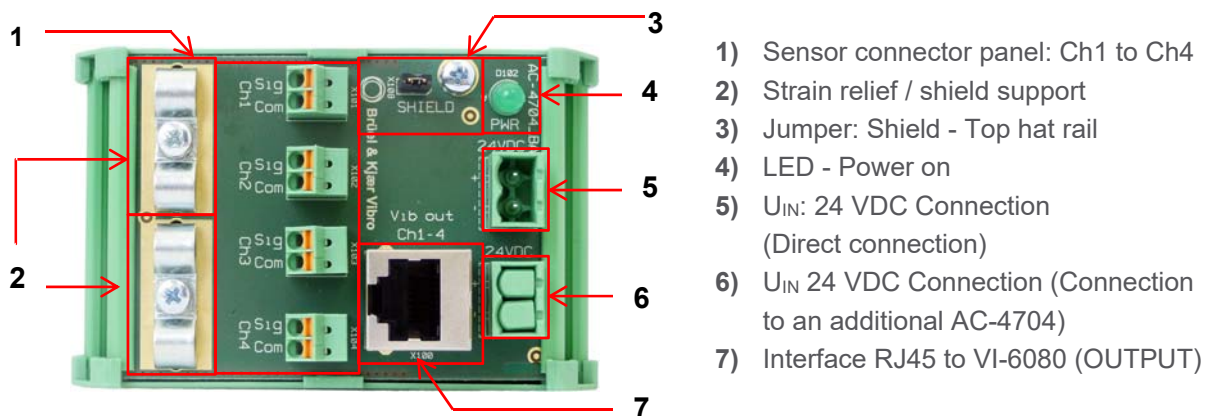

Figure 1) connection description AC- 4704
Before commissioning, make sure that the unused supply connectors (X105, X106) are covered with blind plugs (see **Figure 1**) / label [6]).
1. Place the shield of the sensor cable either on the shield terminal of the device (see **Figure 1**, label [2]) or on an external shield terminal.